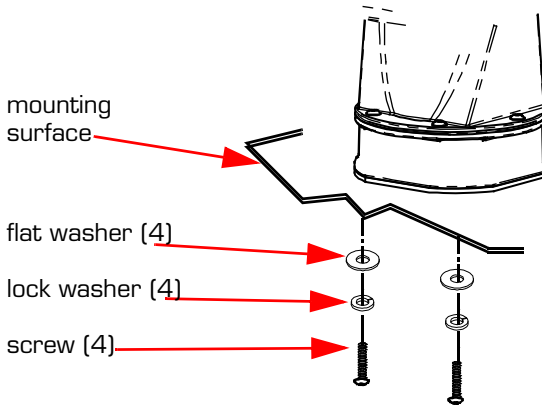

Figure 3-4: Securing the Camera
Step 3 Using a 3mm Allen wrench, securely fasten the camera in place with four M5 socket-head machine screws, flat washers, and lock washers provided. See Figure 3-4